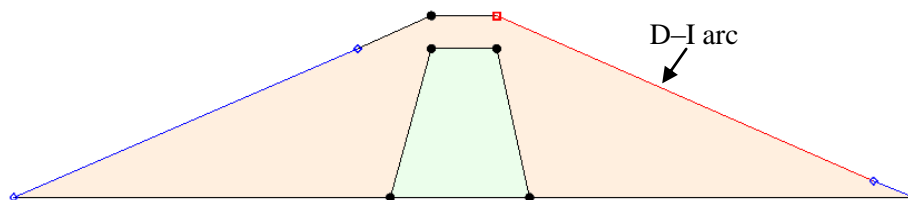

Figure 8 Exit-face boundary
7. Using the **Select Arcs**  tool, double-click on the D–I arc on the upper right (Figure 8) to bring up the *Attribute Table* dialog.
The arc will now be red, indicating it has an exit face boundary condition (Figure 8).